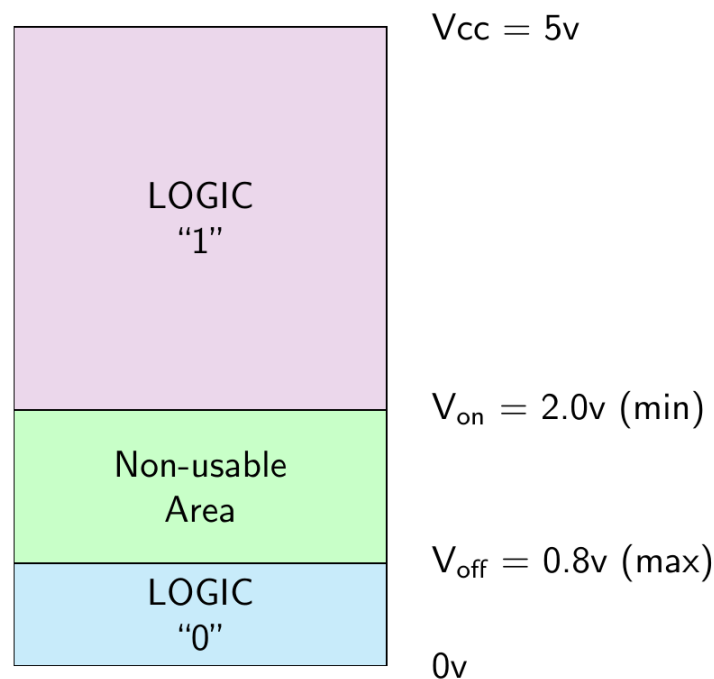

Figure 1: TTL voltage levels
The voltage in a digital circuit is allowed to be in only one of two states: HIGH or LOW. HIGH is taken to mean logical (1) or logical TRUE. LOW is taken to mean logical (0) or logical FALSE. In the TTL logic family (see Figure 1), the “ideal” HIGH and LOW voltage levels are 5 V and 0 V, respectively, but any input voltage in the range of 2–5 V is interpreted as HIGH, and any input voltage in the range of 0–0.8 V as LOW. Voltages outside this range are undefined, and therefore “illegal,” except if they occur briefly during transitions. If the input to a TTL circuit is a voltage in this undefined range, the response is unpredictable, with the circuit sometimes interpreting it as a “1” and sometimes as a “0.” Avoid sending voltages in the undefined range into TTL components.